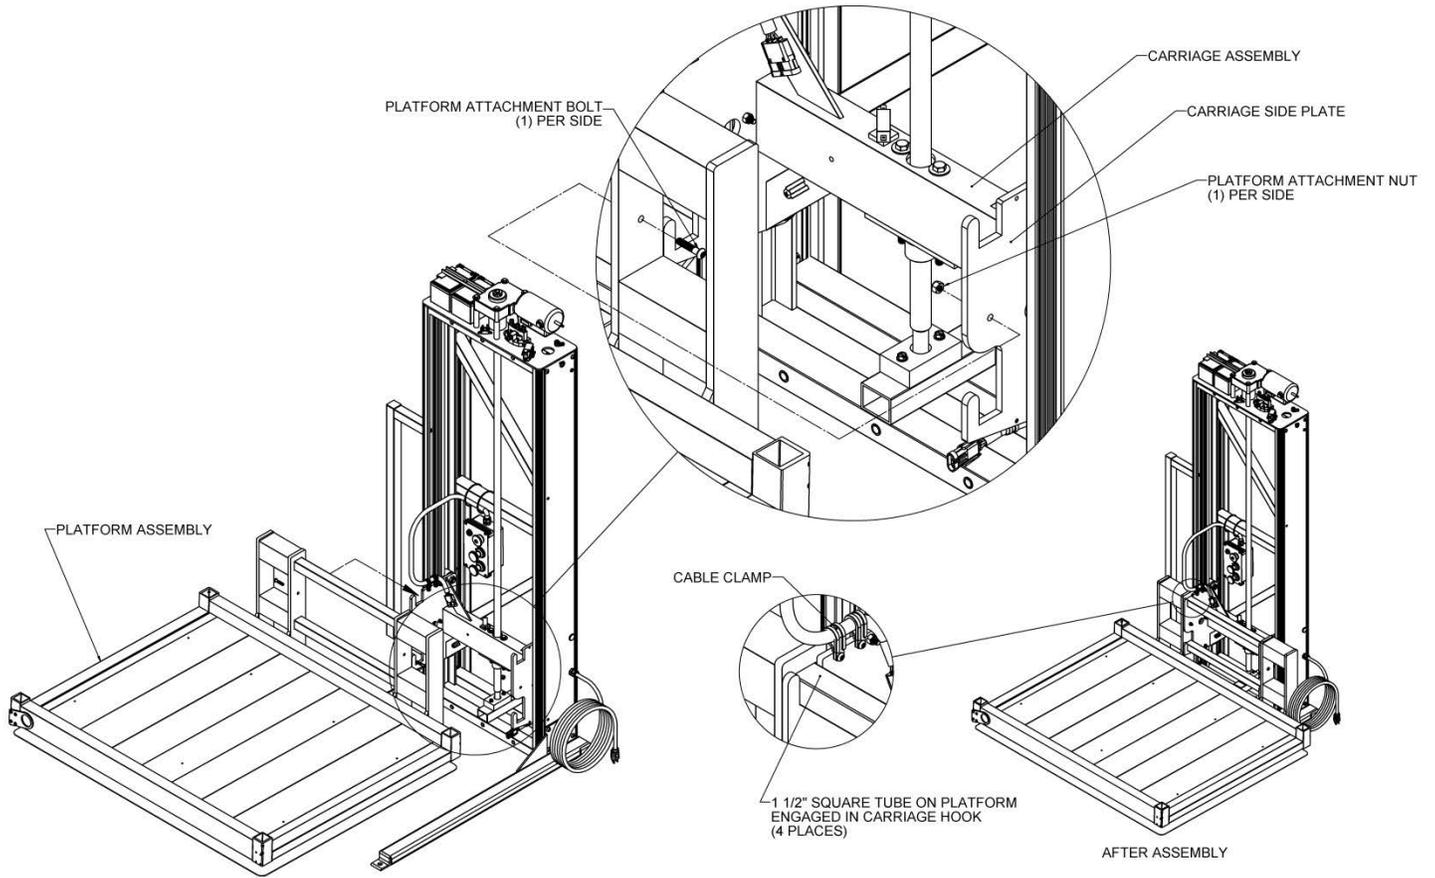

FIG. 4.2
4. Attach the platform assembly to the carriage by first removing the attachment nuts and bolts from the carriage side plates. Lift the platform assembly onto carriage engaging both 1½” square tubes on the platform to the corresponding hooks in the carriage and reinstalling the nuts and bolts to secure the platform assembly to the carriage (FIG. 4.2).